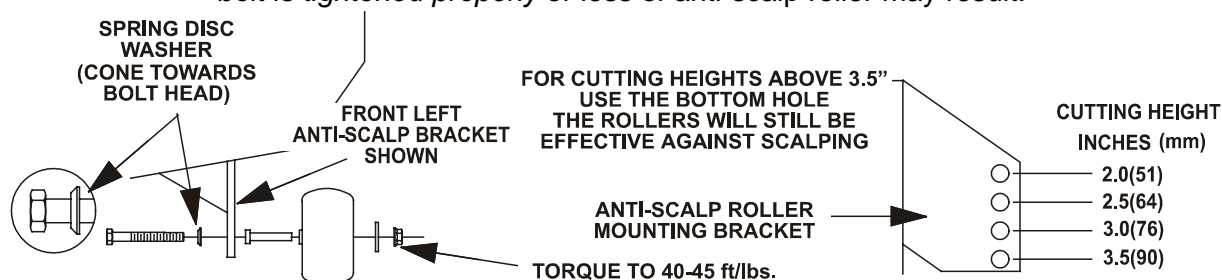

FIG. 10
- g) Adjust anti-scalp rollers for Normal Operating Conditions. Stop engine and remove key. Place rollers in one of the positions shown in Fig. 10. Rollers will maintain 3/4 in. (19 mm) clearance to the ground to minimize gouging and roller wear or damage. **For Maximum Flotation**, place rollers one hole position lower. Rollers should maintain 1/4 in. (6.4 mm) minimum clearance to ground. **Do Not** adjust rollers to support the deck. Be sure *bolt is tightened properly* or loss of anti-scalp roller may result.